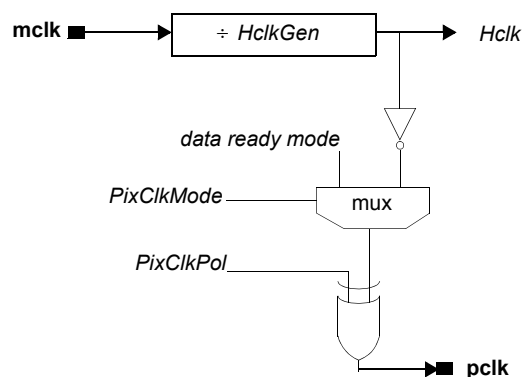

Figure 27. Clock Generation Module
The KAC-9648 contains a clock generation module (figure 27) that will create three clocks as follows:
**pclk** the pixel clock. This is the external pixel clock that appears at the digital video port. By default **pclk** is free running and it's frequency is always equal to *Hclk* (see figure 27).